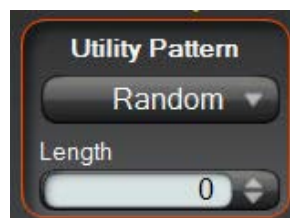

Figure 73. Random pattern
5. Click on the **Random** button to insert a pattern consisting of random logic ones and zeroes. The **Length** field defines the total bit length of the pattern. Refer to Figure 73.